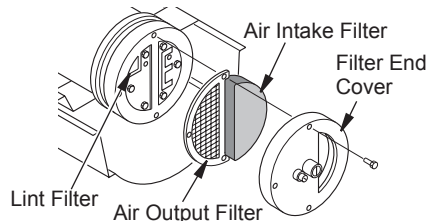
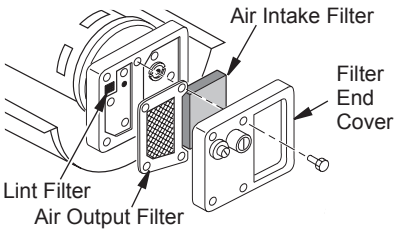

Figure 15 - Air Output, Air Intake, and Lint Filters, 40/55/70 Models Only
Figure 16 - Air Output, Air Intake, and Lint Filters, 115/165 Models Only
2. Remove filter end cover screws using 5/16" nut-driver (see Figure 15 or Figure 16, page 11).